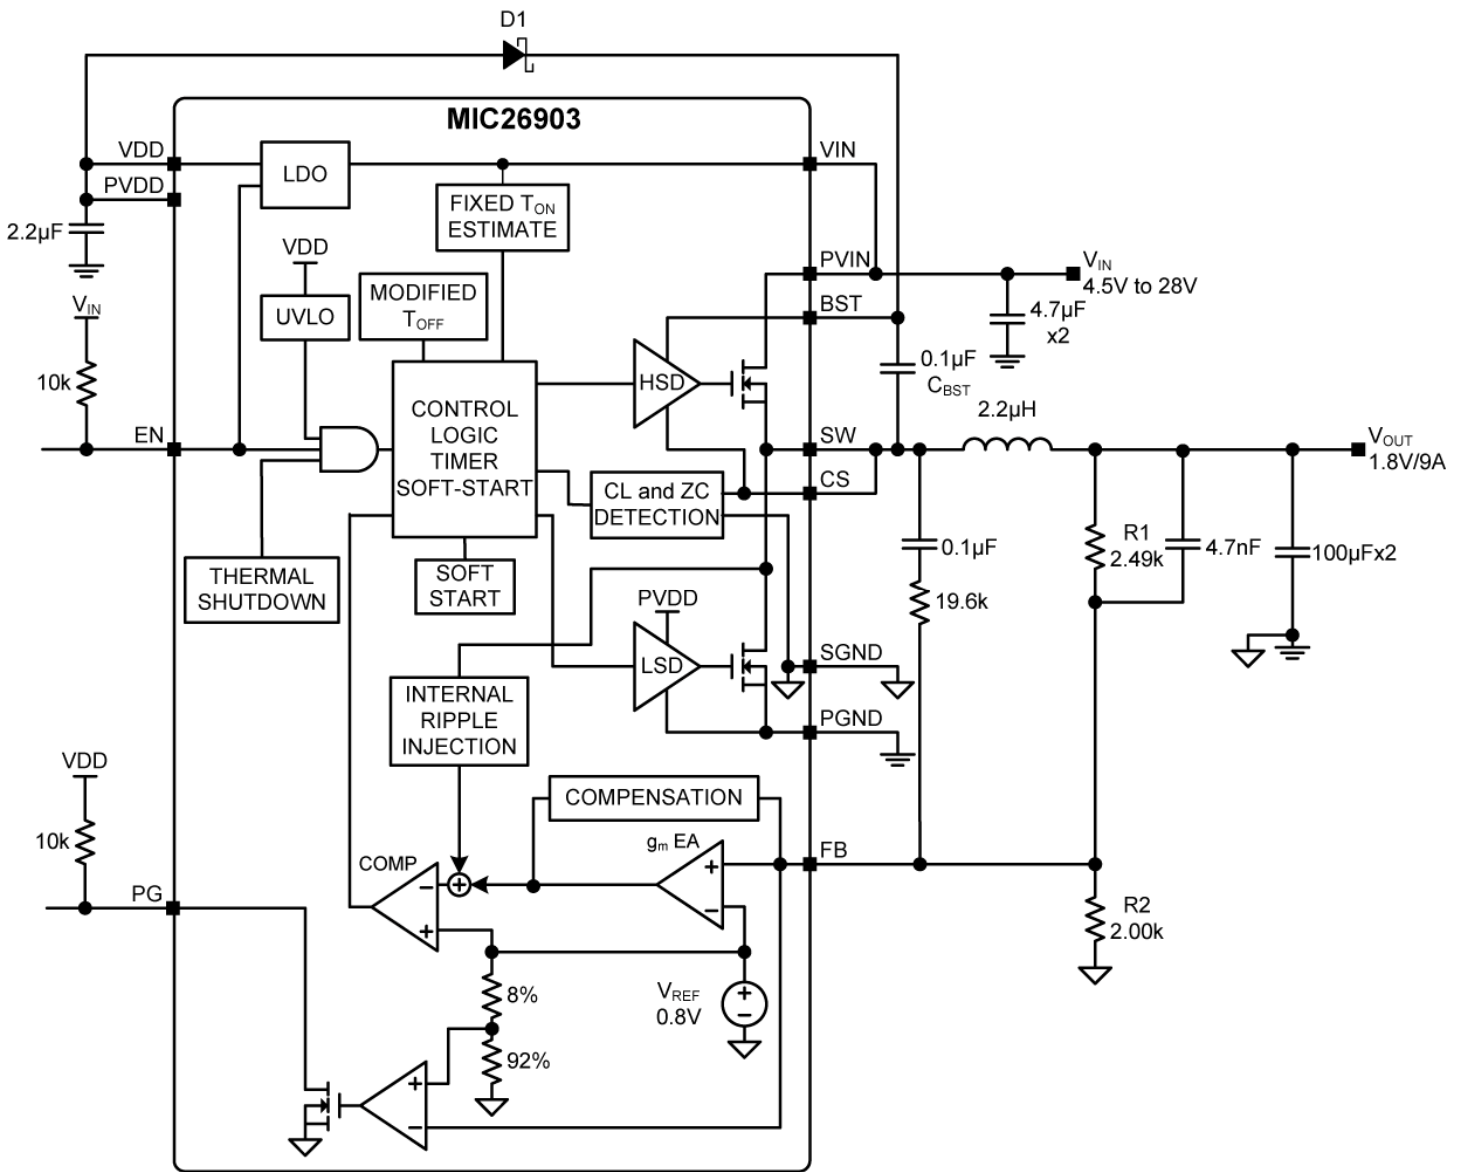

Figure 1. MIC26903 Block Diagram
The MIC26903 is able to operate in either continuous mode or discontinuous mode. The operating mode is determined by the output of the Zero Cross comparator (ZC) as shown in Figure 1.
The Block Diagram (Figure 1) shows a bootstrap circuit, consisting of D1 (a Schottky diode is recommended) and  $C_{BST}$ . This circuit supplies energy to the high-side drive circuit. Capacitor  $C_{BST}$  is charged, while the low-side MOSFET is on, and the voltage on the SW pin is approximately 0V. When the high-side MOSFET driver is turned on, energy from  $C_{BST}$  is used to turn the MOSFET on. As the high-side MOSFET turns on, the voltage on the SW pin increases to approximately  $V_{IN}$ . Diode D1 is reverse biased and  $C_{BST}$  floats high while continuing to keep the high-side MOSFET on. The bias current of the high-side driver is less than 10mA so a 0.1 $\mu$ F to 1 $\mu$ F is sufficient to hold the gate voltage with minimal droop for the power stroke (high-side switching) cycle, i.e.  $\Delta BST = 10\text{mA} \times 1.67\mu\text{s}/0.1\mu\text{F} = 167\text{mV}$ . When the low-side MOSFET is turned back on,  $C_{BST}$  is recharged through D1. A small resistor  $R_G$ , which is in series with  $C_{BST}$ , can be used to slow down the turn-on time of the high-side N-channel MOSFET.